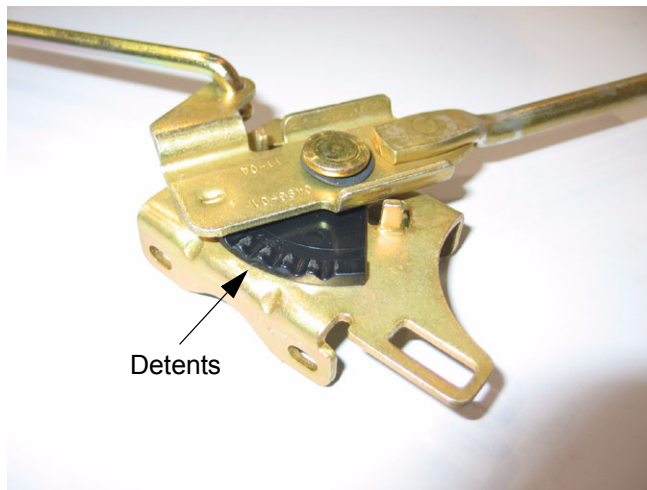

Figure 72
- 18.5. Inspect the detents in the assembly for any wear or damage. See Figure 72.